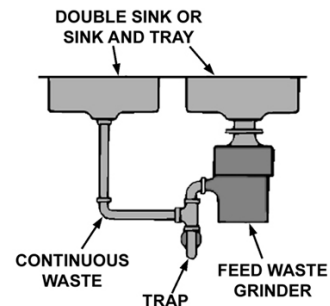
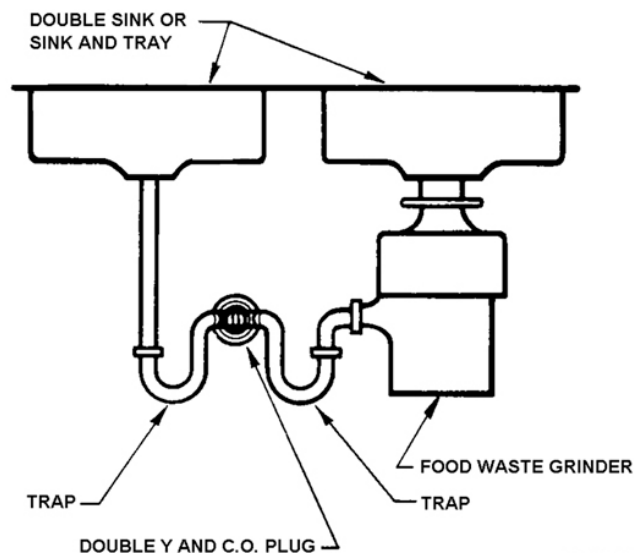

Figure 4-9. Single-trap waste-grinder installation.
Figure 4-10. Double-trap waste-grinder installation.
Modern sinks are designed to be used with either a strainer basket or a waste grinder (fig. 4-9). The strainer and tailpiece are screwed into the sink bowl, and the trap is connected to the rough-in waste. The waste line for both types of sink connections must be at least 1½" in diameter. Food-waste grinders may be trapped separately or with the other compartment of a double sink. If the food-waste grinder is trapped separately, it must be connected to the waste line by means of a double Y (fig. 4-10). Install a cleanout (CO) plug in the drain line between the two traps.